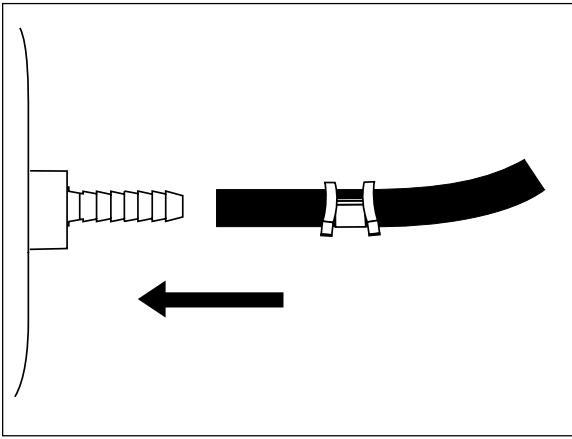

Figure 3
8. Push the air line onto the stem, covering all the barbs (Figure 3).
5. Push the air line onto the stem, covering all the barbed section (Figure 3).
6. With pliers slide the air line clamp forward until it fully covers barbed section (Figure 3).